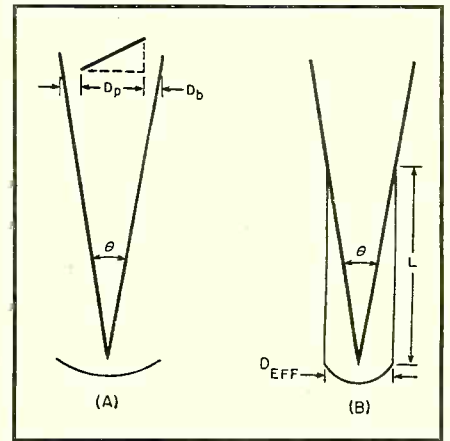

Fig. 13. Parameters for calculating the power reflected from a reflector.
and is illustrated in Fig. 13 for different conductor spacings. Although these results are based upon a single cylindrical conductor in the vicinity of a metallic sheet as a load, they are very indicative of expected results for more complicated arrangements. When the conductor and the metallic sheet are made of the same material, the quantity under the radical sign in Eq. (20) is unity, and the maximum coupling efficiency will exist when the ratio  $h/a$  is also unity. Since the ratio  $h/a$  cannot be less than unity and may increase to any value, the graph in Fig. 13 has been plotted with the ratio  $a/h$  as the abscissa. All physically possible values for  $a/h$  lie between zero and unity and provide a condensed coordinate system.
A lens of this type would have considerable thickness at the top and bottom. It is possible to reduce this thickness through the use of a system of steps, shown in Fig. 13, in which the thickness of each step is equal to: